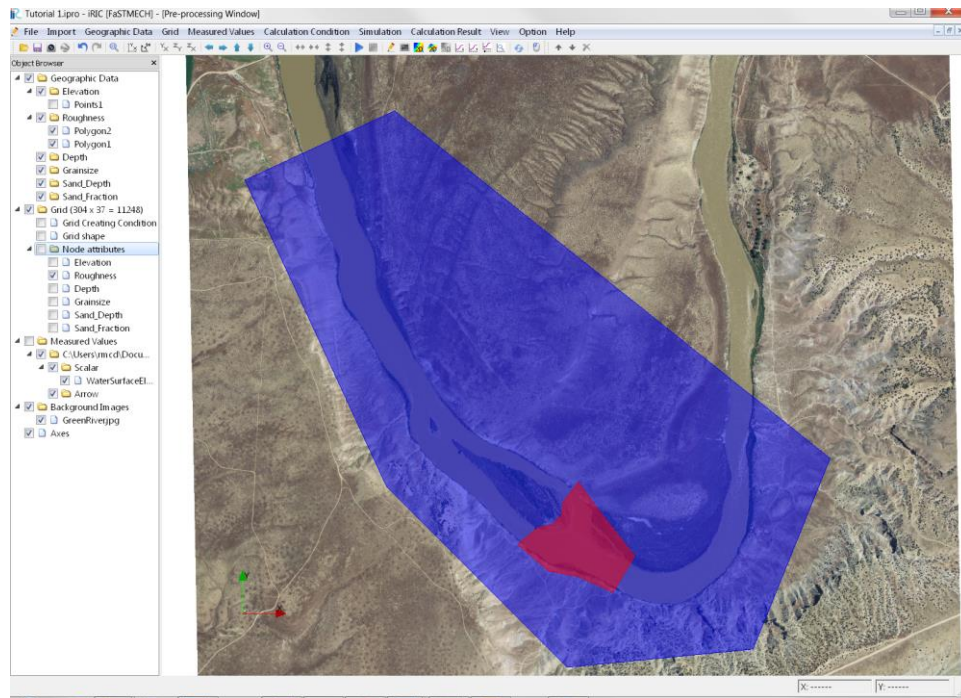

Figure 25. Example of the polygon mapping
- Create another polygon and this time define a polygon similar to the one in Figure 25. At the prompt enter a roughness value of 0.012.